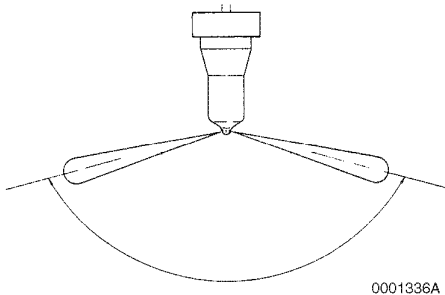

Figure 9-31
5. Pump the operating lever more rapidly to repeatedly "pop" the injector and observe the spray pattern. The pattern should be a very fine uniform spray (**Figure 9-31**). If a dripping or an uneven pattern is seen (**Figure 9-32**), service or replace the injector.